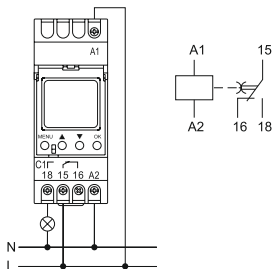

Figure 3 – Timer connection diagram
2.6 The timer connection diagram is shown in the figure 3.